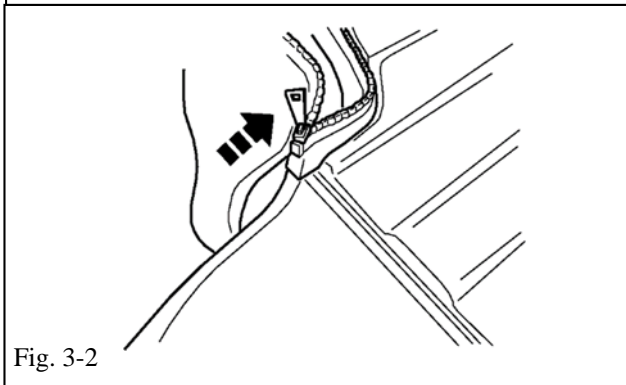

Fig. 3-2
- Once properly aligned, zip sides into place. (Fig 3-2)